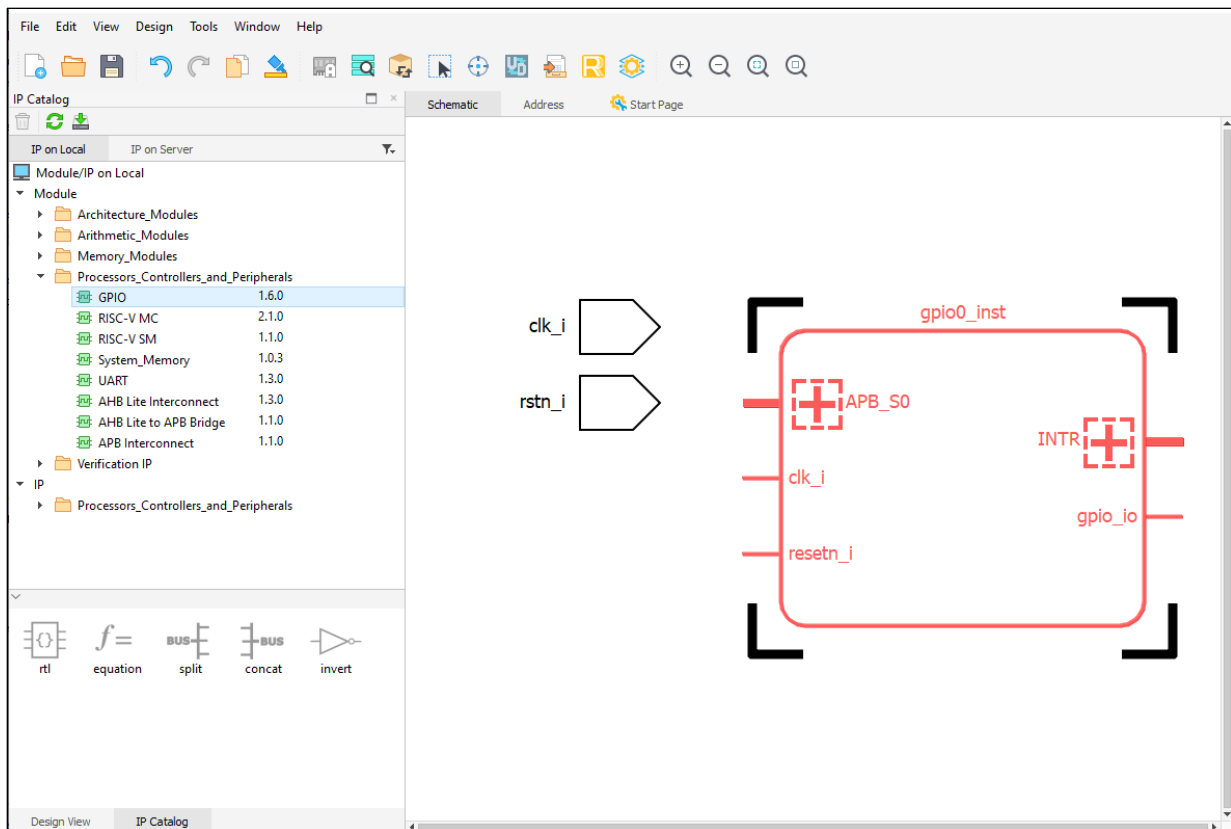

Figure 2.63. Select Object
- Click on the object in the Schematic view. The selected object turns to red (Figure 2.63).